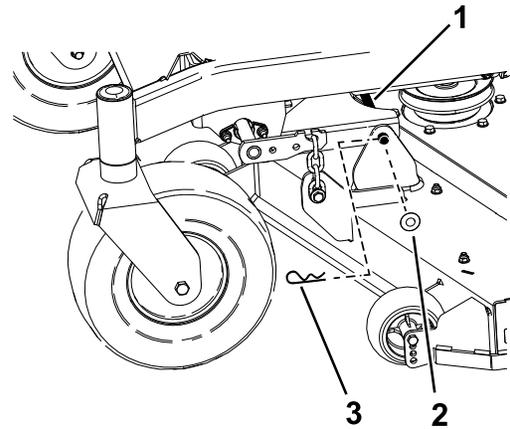

Figure 67
5. Remove the hairpin cotter and washer securing the link pin to the frame and deck, and remove the link bar (Figure 67).
9. Secure the link pin with the hairpin cotters and washers removed previously (Figure 67).